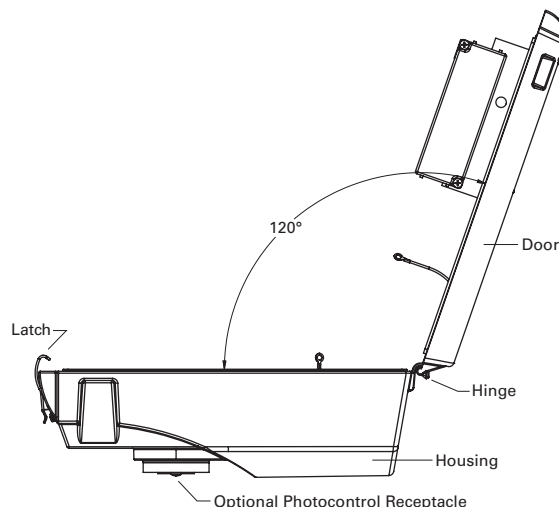

FIG. 1
STEP 1. With housing lying on a smooth, soft surface open the access door by releasing the latch. Door may be removed by opening approximately 130° and lifting off the hinge **FIG. 1**.